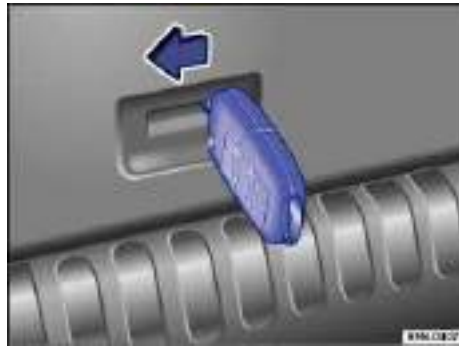

Fig. 181 View from luggage compartment: Emergency unlocking rear hatch with the remote control vehicle key.
- Insert the key bit into the opening in the rear hatch trim and press in the direction of the arrow ⇒ fig. 181 to unlock the rear hatch.